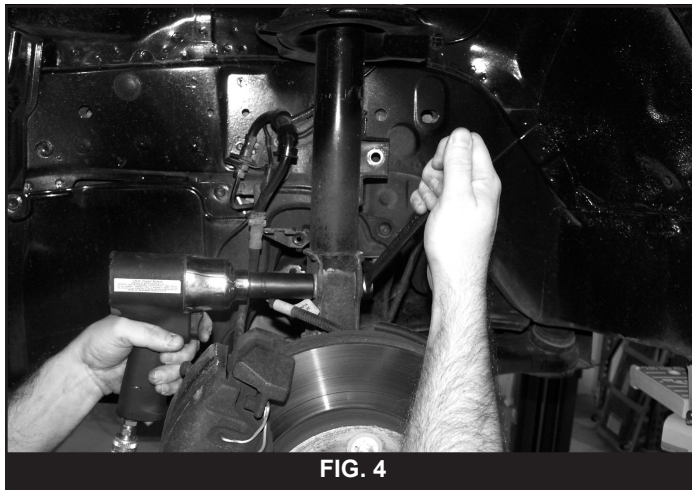

FIG. 4
8. Support the lower control arm with a floor jack. Remove the two strut-to-knuckle mounting bolts (Fig 4).